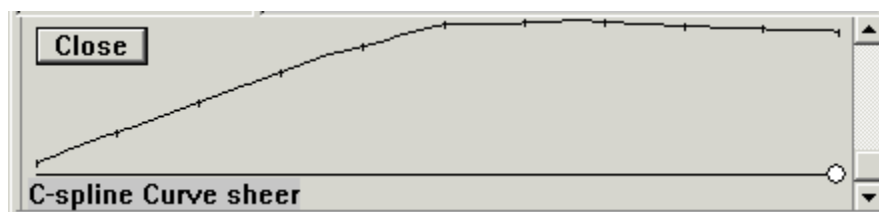

Fig. 28
- 5 **Up arrow to Lat -40.** From this direction, the sheerline presents a completely convex curve. The curvature profile shows this as all positive curvature (the bug is always curving to the left; Fig. 28).